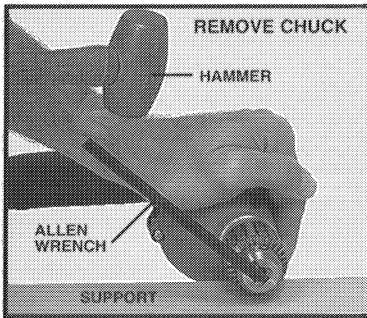

Fig. 5
4. Place the short end of a large allen wrench ($\frac{1}{4}$ " or larger) into the chuck. Align wrench flats with chuck jaws and tighten chuck securely using chuck key. While supporting chuck on a solid surface, position allen wrench to left (see Fig. 5) and strike wrench a sharp blow with a hammer to loosen chuck. Turn chuck counterclockwise to remove.